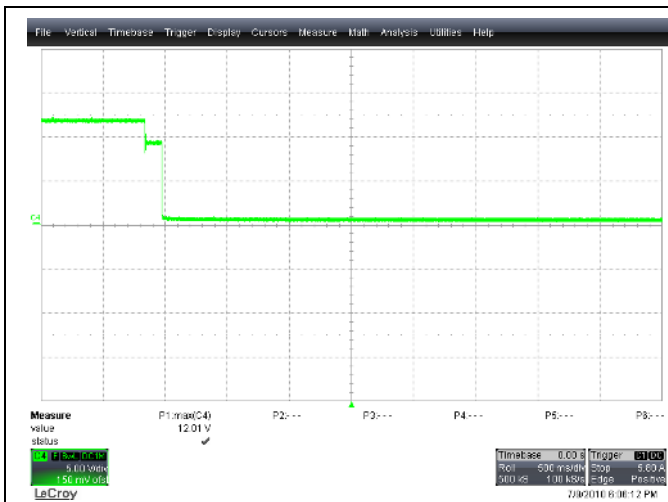
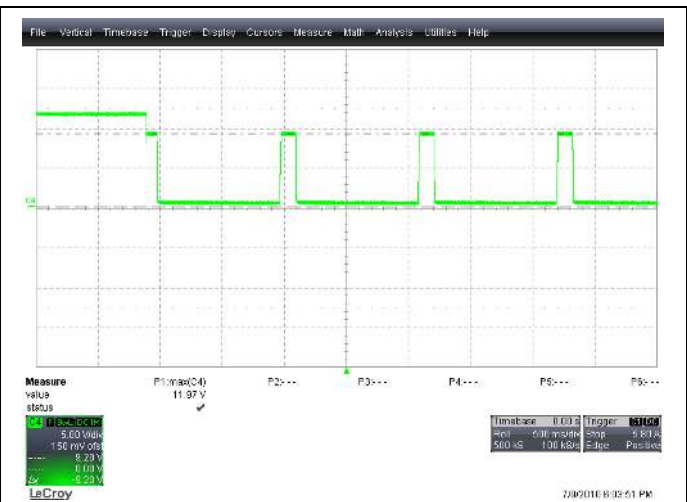

Figure 39 - Latching VS1 Under Voltage Protection (set to 9.2V)
Figure 40 - Hysteretic VS1 Under Voltage Protection (set to 9.2V)
- A. **Under Voltage Protection (UVP):** Figure 39 and Figure 40 show latching and hysteretic UVP respectively.